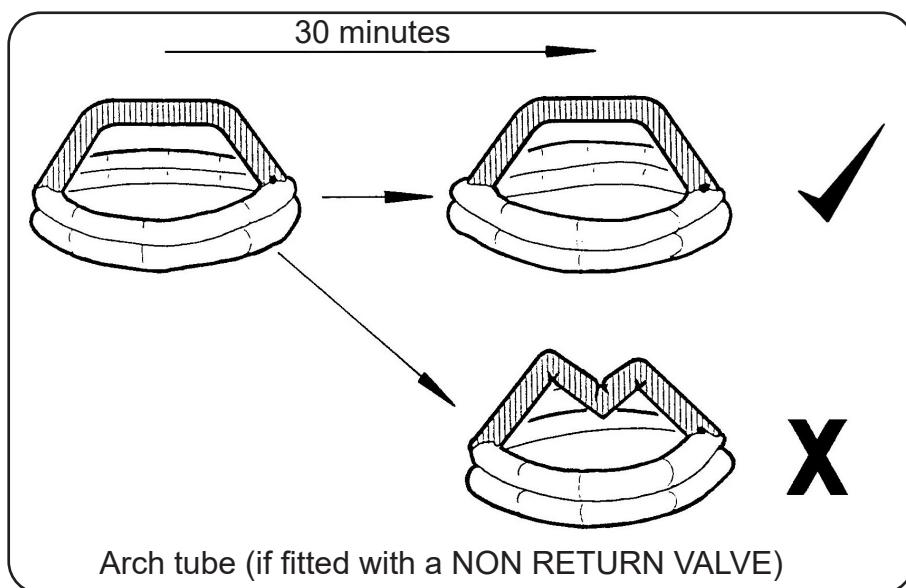

FIGURE 504
- (a) After 30 minutes the arch tube must maintain its full shape. Transfer valve which do not hold air must be replaced. Refer to FIGURE 504.